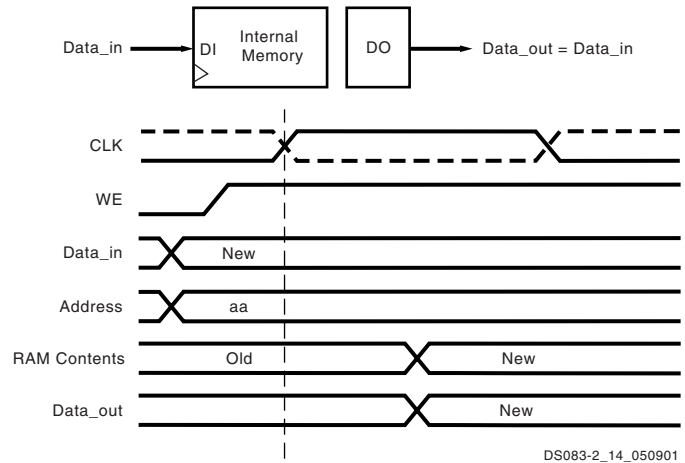

Figure 39: WRITE\_FIRST Mode
The WRITE\_FIRST option is a transparent mode. The same clock edge that writes the data input (DI) into the memory also transfers DI into the output registers DO, as shown in **Figure 39**.